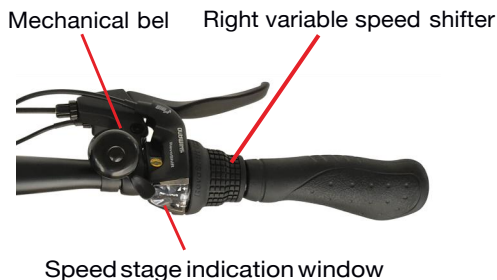

Figure 4 (right handlebar)
- 6.Speed change: Referring to Figure 4, turn the speed change shifter while the vehicle is moving to achieve speed change from gear 1 to gear 7.